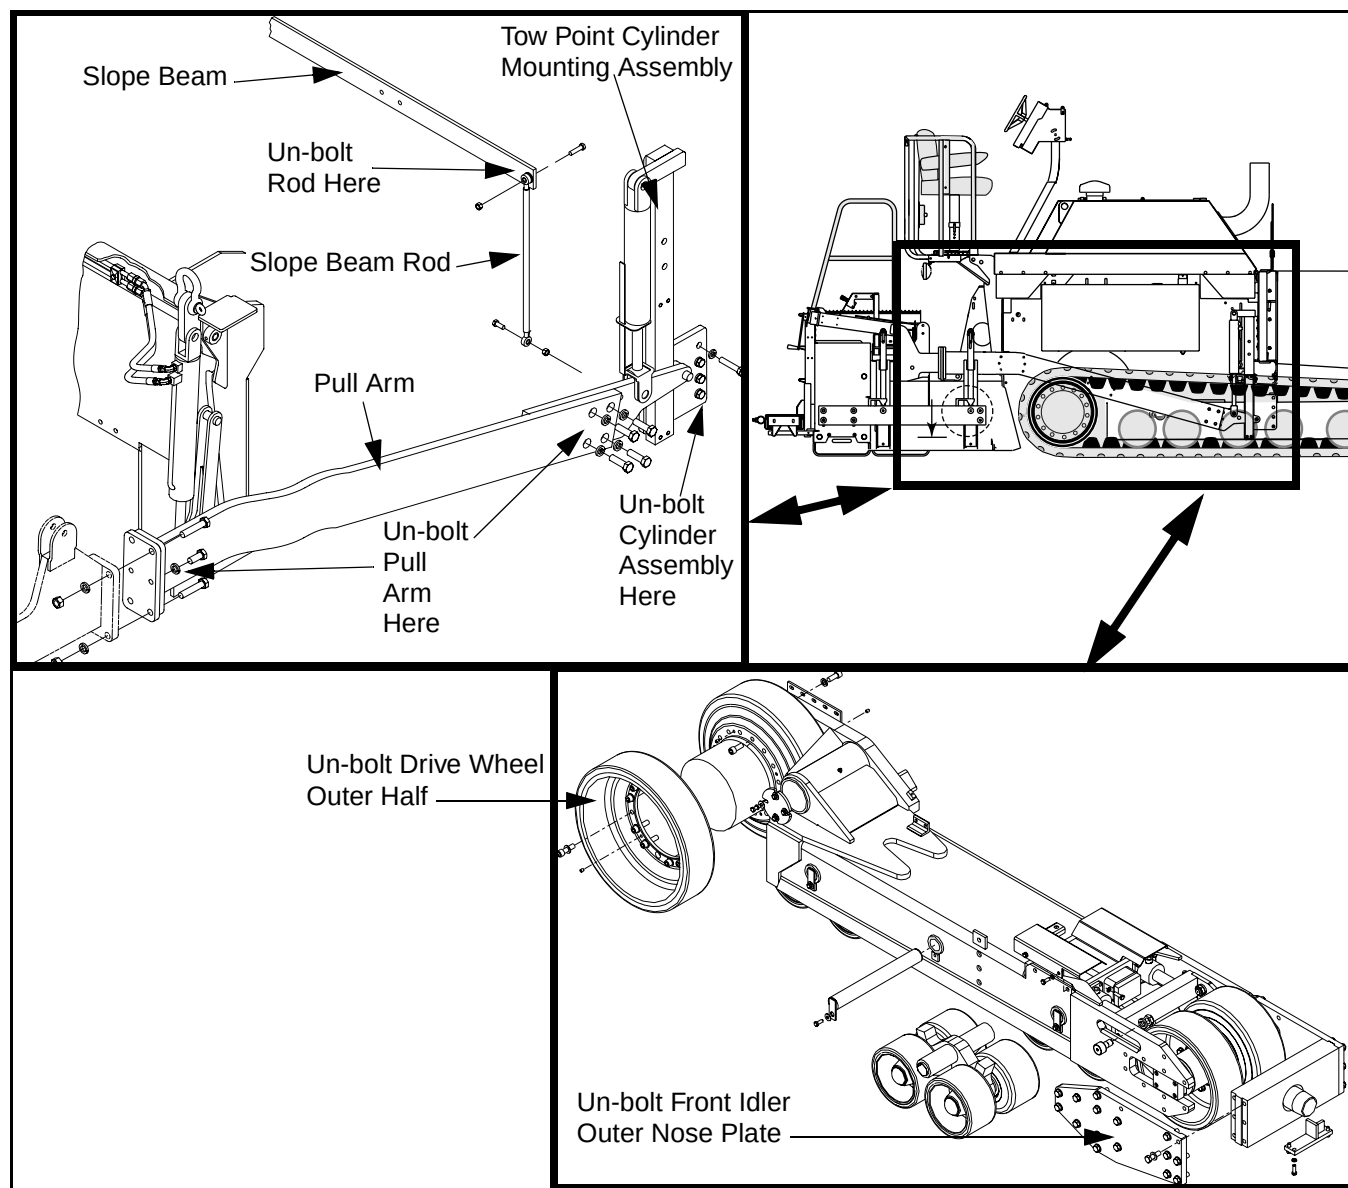

Figure 6 - 78 Rubber Track Removal
- 8) Insert an allen wrench into the adjusting screw on tension release valve cartridge (Figure 6 - 76). Slowly turn it clockwise until the valve seats.